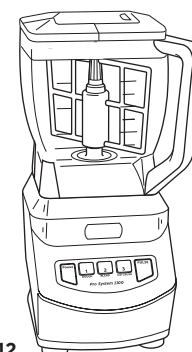

Fig. 12
- 2 Add the ingredients and secure the bowl lid onto the bowl. (Fig. 12)